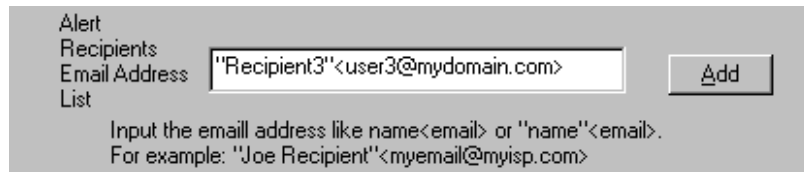

Figure 47: Setting Email Address window
- 1) Double-click on the Message Agent to which you wish to add a user for email alert notification. This will reveal the Message Agent main screen. Find the section of the Message Agent Information View screen similar to Figure 47.